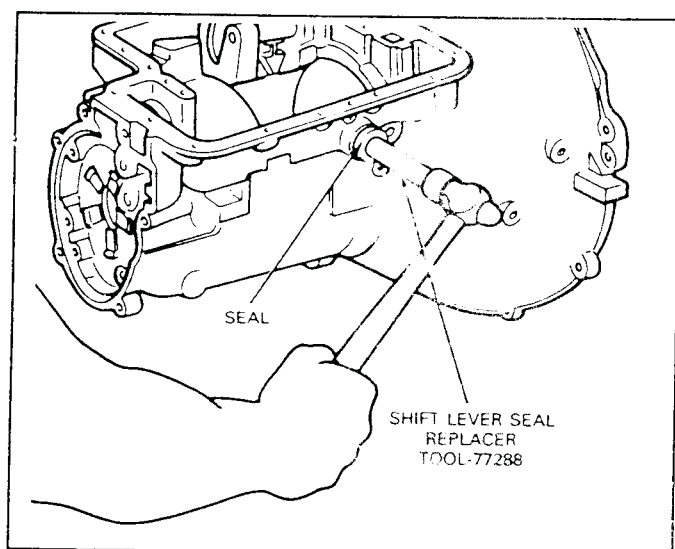

FIG. 30 Installing Manual Lever Seal
1. Dip the new seal in transmission fluid Motorcraft MERCON® Multi-Purpose Automatic Transmission Fluid XT-2-QDX or DDX (ESP-M2C166-H), or equivalent and install it in the case using TOOL-77288 or equivalent as shown in Fig. 30.